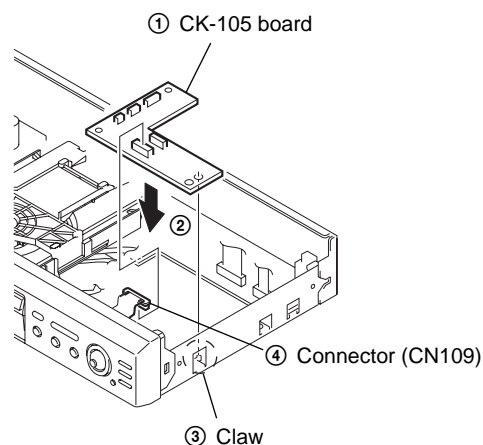

Fig. 3
- 4) Set the Jig A board as shown in Fig. 3.